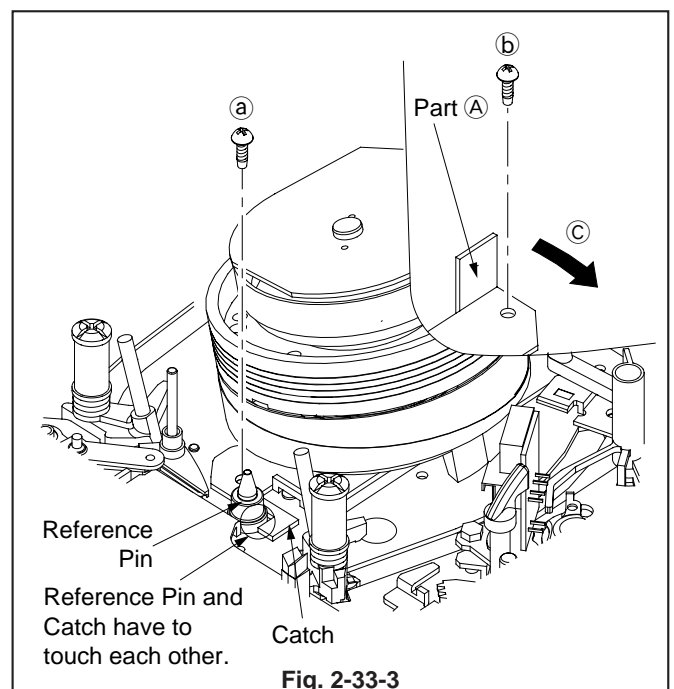

Fig. 2-33-3
2. Hook the catch of the DRUM CLAMPER shown in Fig. 2-33-3 to the reference pin.
3. Fasten the screw (b) while pushing Part (A) in the direction shown by arrow (C) (clockwise when viewed from the top) as shown in Fig. 2-33-3.
4. Fasten the screw (a) shown in Fig. 2-33-3.